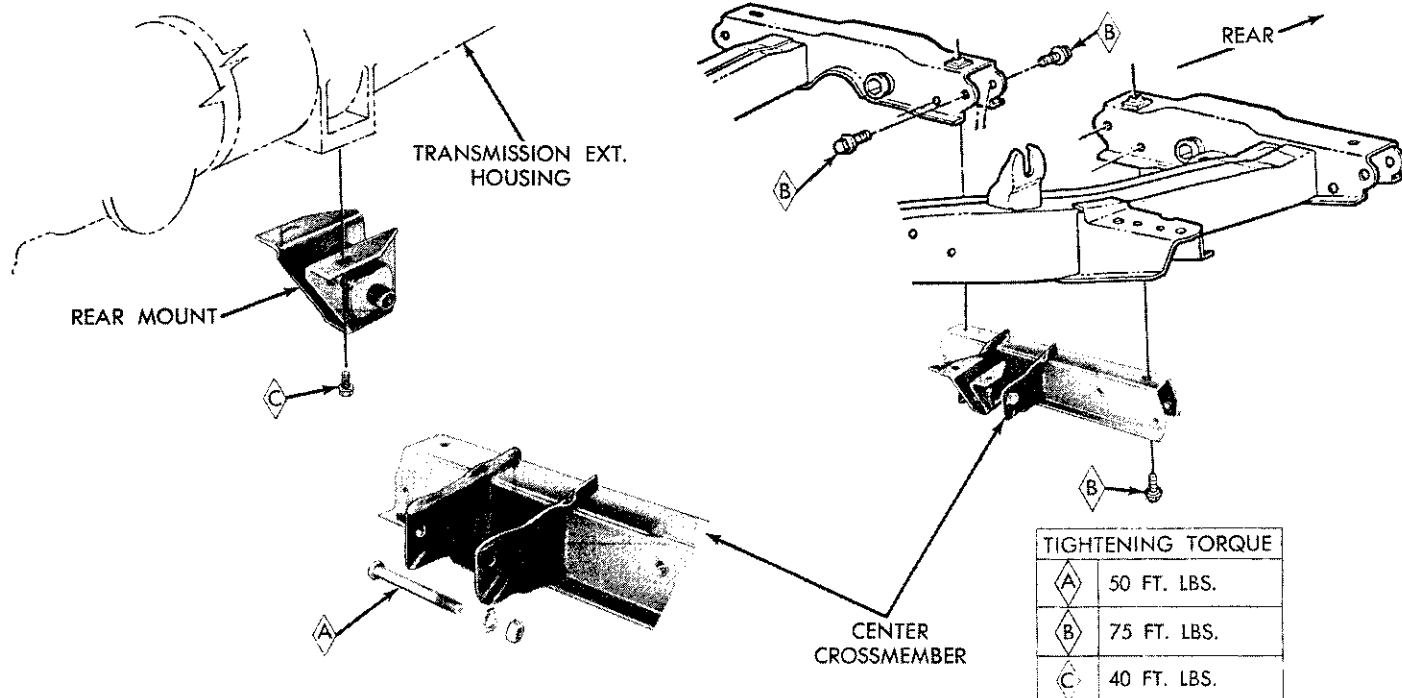

Fig. 39—Center Crossmember and Rear Engine Mount
(4) Install transmission to clutch housing bolts and tighten to 50 foot-pounds.
(5) Using a pointed drift, align crossmember bolt holes, then install attaching bolts. Tighten to 75 foot-pounds (Fig. 39).
(6) Remove engine support fixture and disengage hooks from holes in the frame side rails. Install extension housing to rear engine mount bolts and tighten to 40 foot-pounds. Engine mount to center crossmember bolt and nut, loose assembled to this point, should now be torqued to 50 foot-pounds.
(7) Referring to "Gearshift Linkage Adjustment", connect shift control rods to transmission levers and connect speedometer cable.